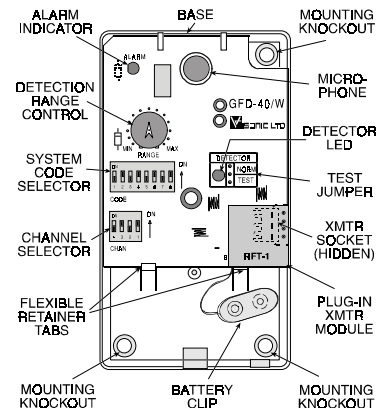

Figure 1. Inside View
The detector unit is suitable for surface mounting, using the mounting knockouts provided in the base (see Figure 1).
C. Punch out two diagonally opposed mounting knockouts (see Figure 1 for knockout locations).
All sounds affecting the detector can be monitored and displayed by the test LED marked DETECTOR, provided that the NORM/TEST jumper is placed in the TEST position (see Fig. 1). Check individual sounds, such as telephones and door chimes, to find out whether they cause the detector LED to light. If they do, gradually rotate the range control counterclockwise until the LED no longer lights.